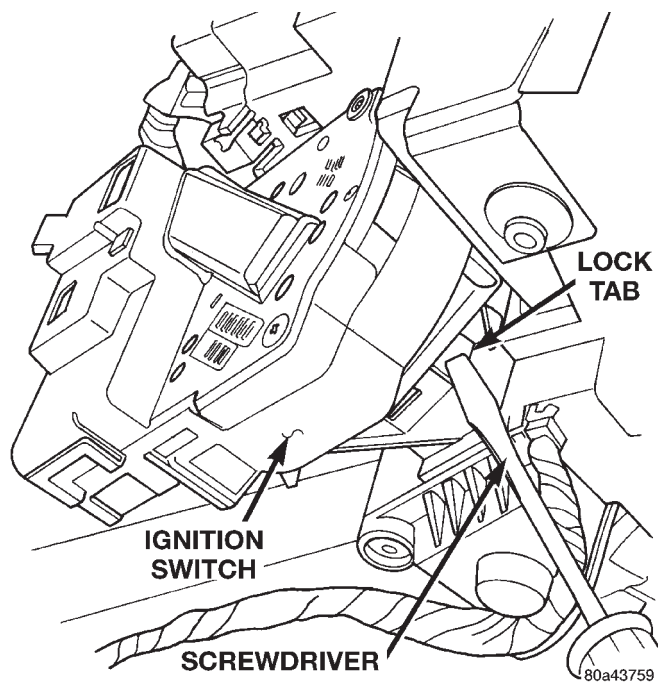

Fig. 47 Ignition Switch Lock Tab
(5) Using a small screwdriver, push on locking tab (Fig. 47) and remove switch from steering column.